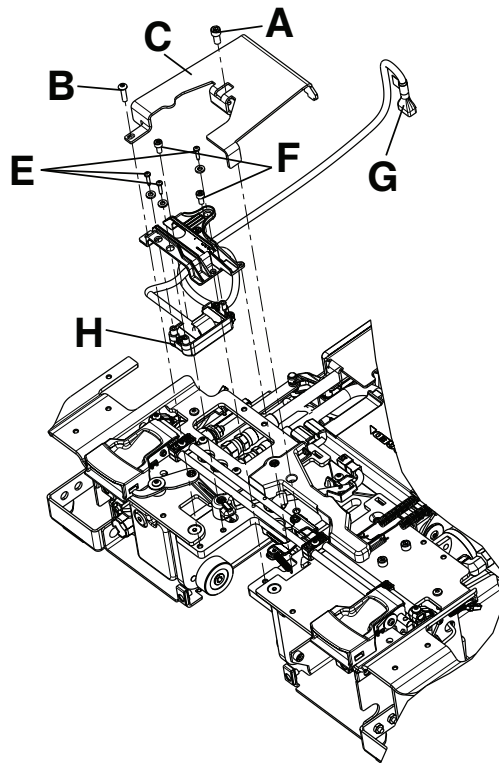

Figure 26 – Inductive coil assembly
2. Using a 5/32" hex wrench, remove the screw (A) that secures the inductive coil assembly to the frame (Figure 26). Save the screw.
3. Using a 3/16" hex wrench, remove the screw (B) that secures the inductive coil assembly to the frame (Figure 26). Save the screw.
4. Remove and save the cover (C) (Figure 26).
6. Using a T25 Torx driver, remove the screws (E) that secure the charge bracket (Figure 26). Save the screws.
7. Using a 5/32" hex wrench, remove the screw (F) that secures the charge bracket (Figure 26). Save the screw.
9. Unplug the cable (G) from the trolley control board assembly and remove the inductive coil (H) (Figure 26). Discard the inductive coil.